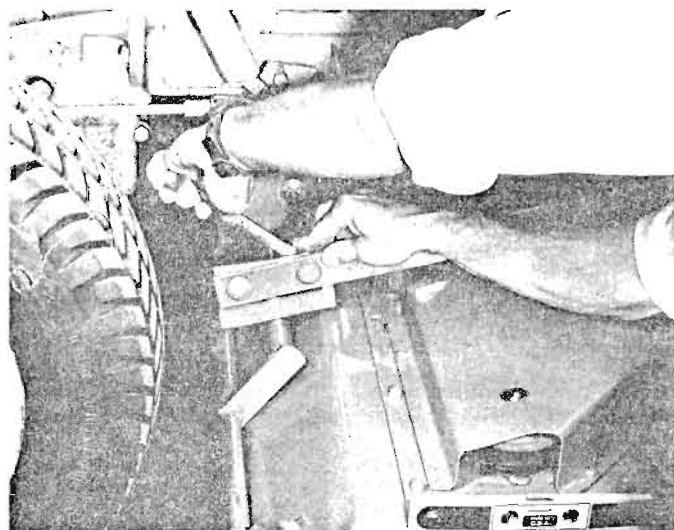

fig 8
6. By hand, push the front of the adjusting cam down as tight as possible against the pivot weldment axle, (Items 79 and 95, 50" mower) (Items 79 and 93, 40" mower) and tighten all bolts securely. See fig 8.